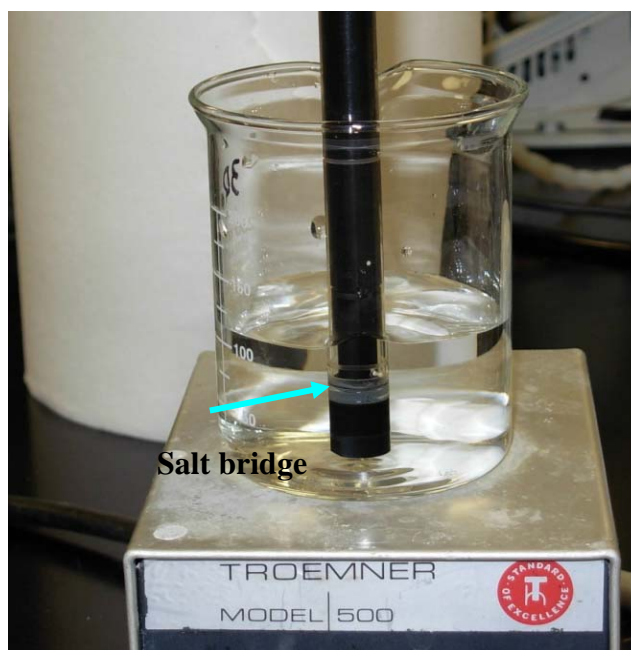

Figure 4. Proper positioning of electrode in beaker.
- 5.3.6. Insert the electrode so that not only the electrode but also the salt bridge is immersed in the liquid. See Figure 4 on the next page.
- 5.3.11. Rinse the electrode with nanopure water and place in the storage flask. **Make sure that the fill hole is closed.** Refer to Figure 4 for placement.